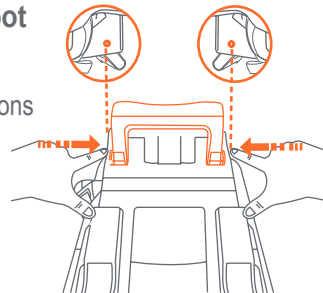

Fig. 54-2
- 1- Press elevation foot release buttons located on the side of the base (Fig. 54-2).